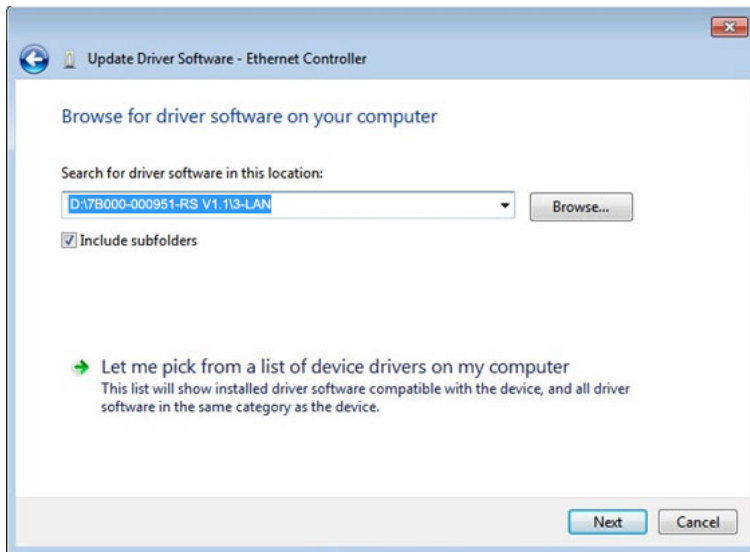

Figure 6-17: Locate Driver Files
Step 9: Click **Browse** to select “X:\13-LAN” directory in the **Locate File** window, where “X:\” is the system CD drive. (Figure 6-17).